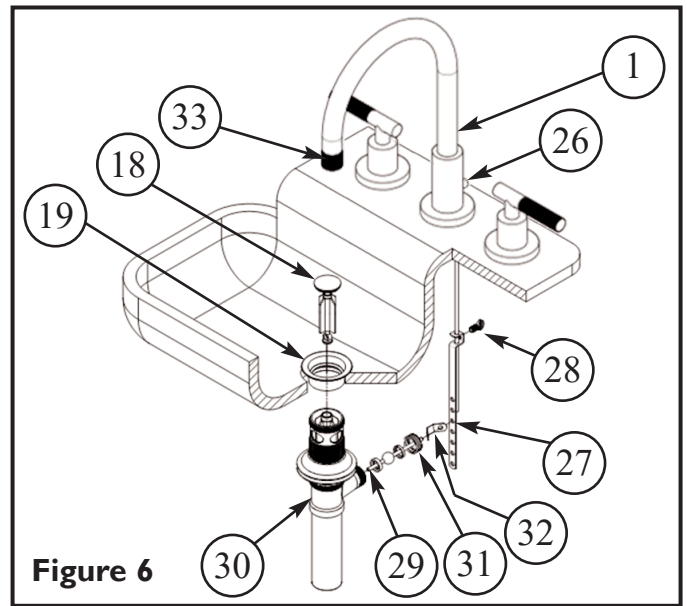

Figure 6
7. Insert ball ROD (29) into the drain rod OPENING (30); secure with ball rod NUT (31). Insert pop-up ROD (26) through SPOUT (1) and secure to STRAP (27), approximately 1" from end of ROD (26), with SCREW (28). Place drain PLUG (18) into FLANGE (19). Adjust the rise of the plunger and CLIP (32) into place. Adjust ball ROD (29) and pop-up ROD (26) so drain will open and close properly. See Figure 6.
8. Remove AERATOR (33) from SPOUT (1). Turn on water supply, and flush both VALVES (4) until water is clear. Check for leaks and make any final adjustments required. Re-attach AERATOR (33) to the SPOUT (1). See Figure 6.